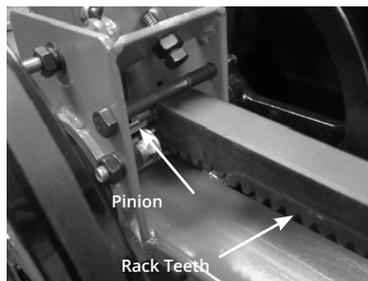

Fig. 12
4. Pull the Rack out and grease the Rack Teeth, top side of the Rack and the Pinion (Fig.12).